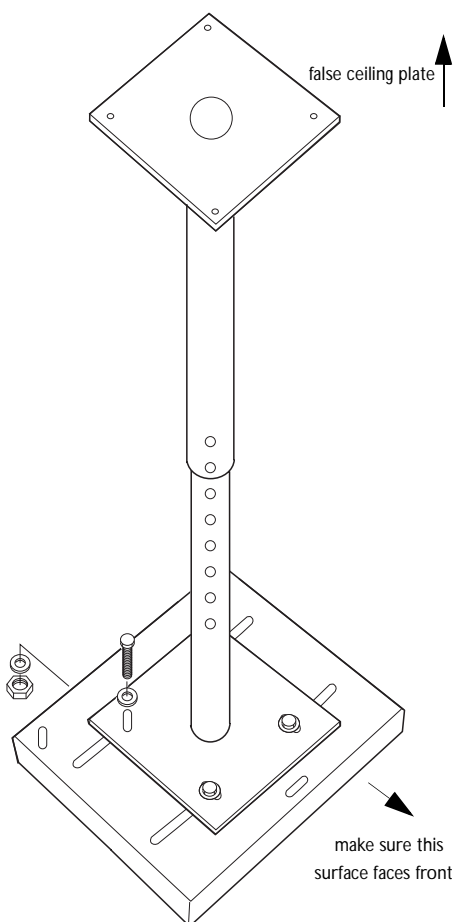

FIGURE 2
- 2b LiteMount Pipe Tubing Extension - Line up the holes in the base box with the holes in the plate at the end of the pipe extension. Install the hardware as shown in Figure 2.